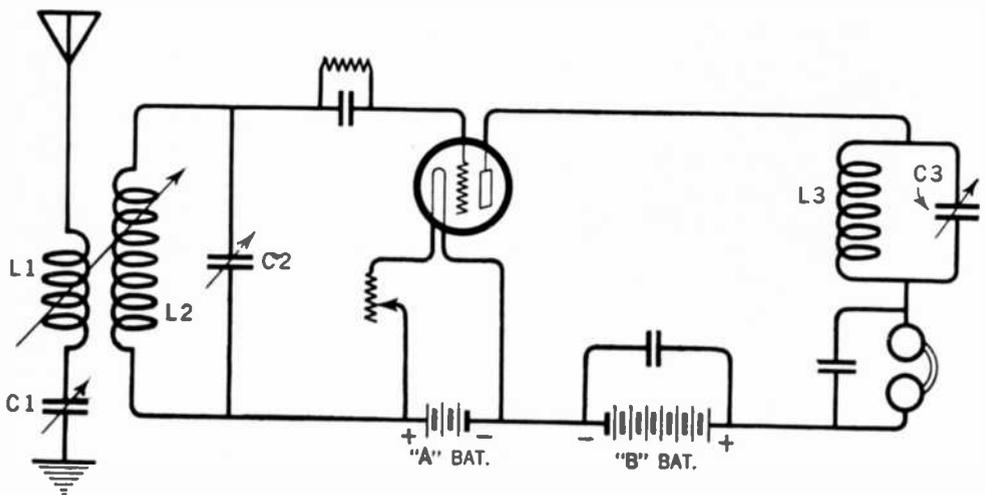

Fig. 63.—Showing various uses of variable condensers in a receiving circuit.
*Answer.* Three variable condensers are shown in the tuned-plate regenerative circuit in Figure 63.